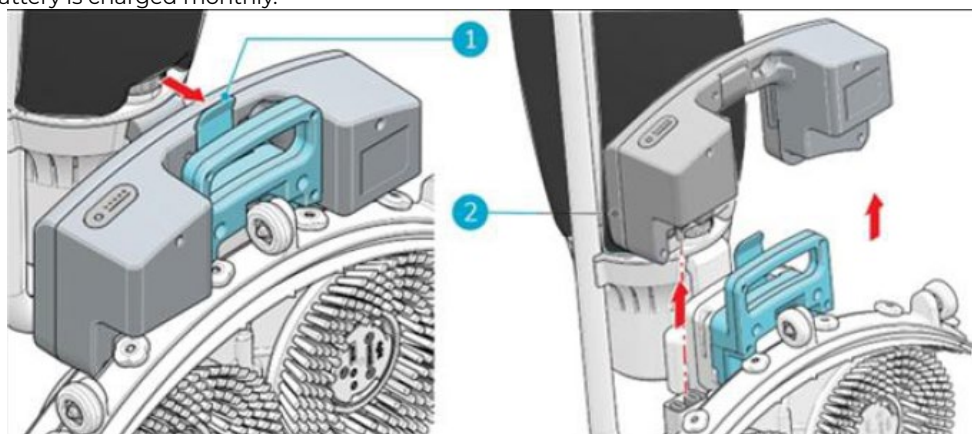

Fig 15
3. Press the retaining clip inwards (Figure 15, pos 1) Battery will lift from its anchor, pull the battery away (Figure 15, pos 2).